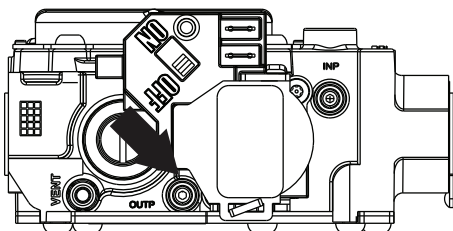

Fig. 7 – Control Switch to OFF
- Turn the control switch on the gas control to the OFF position and wait 5 minutes, see Fig. 7. Then smell for gas, including near the floor. If you smell gas, STOP! Follow “B” on furnace label. If you don’t smell gas, go to next step.
- Turn the switch on the gas control to the OFF position, see Fig. 7.